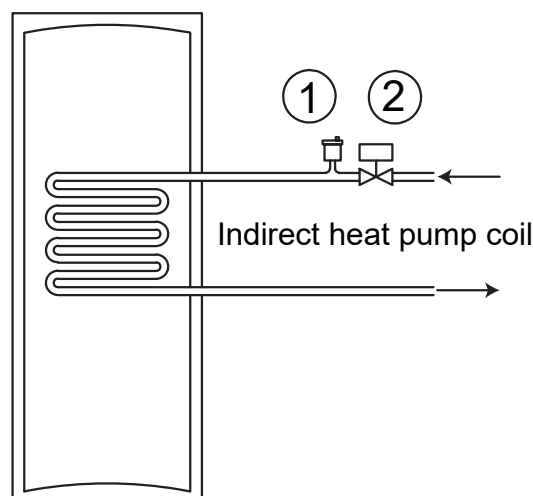

Figure 3-1: Primary circuit connections
Refer to item 2 in Figure 3-1. The 2-port valve should be wired in accordance with either Figure 5-3 or Figure 5-4 for a Grant Aeronia Heat Pump (depending on the controller) to comply with current legislation. For other makes of heat pump please check with the heat pump manufacturer for connection details.
Table 3-1: Key to Figure 3-1